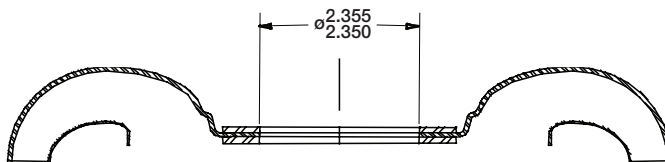

Figure 1
- Center the turbine in a lathe and bore a 2.350/2.355" diameter hole (see Figure 1).